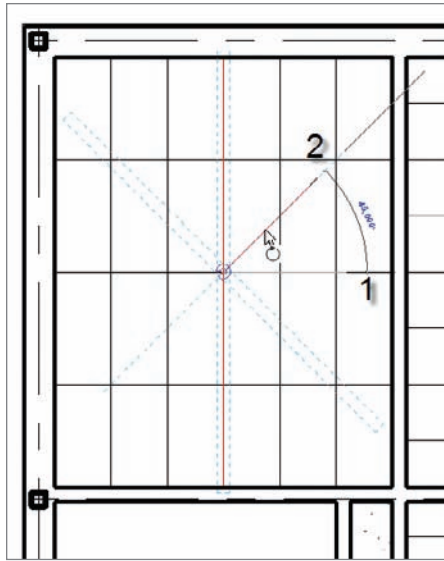

FIGURE 9.8 The Rotate process
4. Rotate the grid 45° by using the two-pick method, as shown in Figure 9.8.